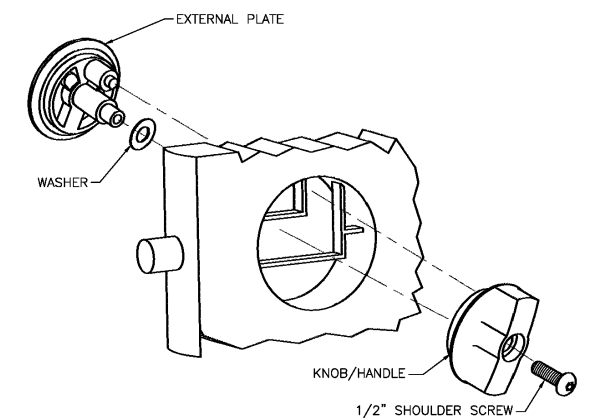

Figure 9B
- Mount external plate and knob. Remove clear plastic retainer holding spring washer in place on the post of the external plate. Insert the external plate into door as shown in Figure 9B, with the shorter post inserted into the upper pocket of the internal latch mechanism. Mount the knob/handle on the inside of the door and engage it with both the center post and the shorter, off-center post of the external plate. Insert $\frac{1}{2}$ " shoulder screw with blue tip through the knob/handle and tighten until snug. Check for proper operation of knob and latch pin before final tightening.
- Locate strike/keeper on the latch-side pilaster so the latch pin engages with it when the door is closed. Drill ($\frac{1}{4}$ " bit) mounting holes and secure strike/keeper to pilaster using thru bolt (1), with black rubber bumper facing out for outswing doors and in for inswing doors.